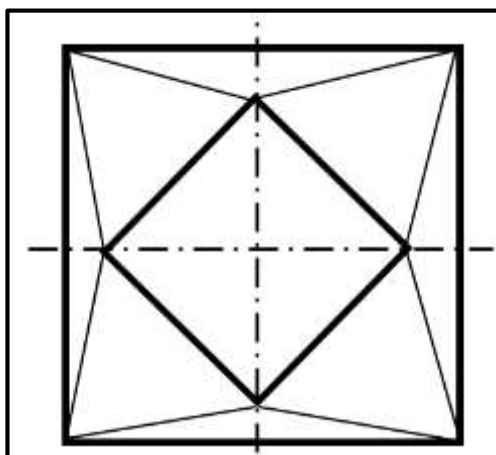

FIGURE 11.4
11.4 Identify the type of hopper shown in FIGURE 11.4 below.